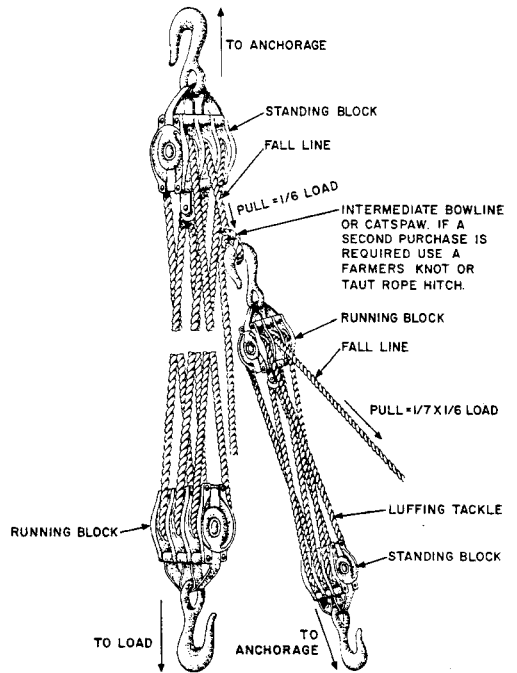

Fig. 5—Lifting Load Using Luffing Tackle
7.02 Fig. 5 and 6 show two methods of arranging blocks, one lifting and the other hauling a load.
9.03 Should Table A indicate that luffing tackle is required, select a system of rigging as shown in Fig. 5 and 6.